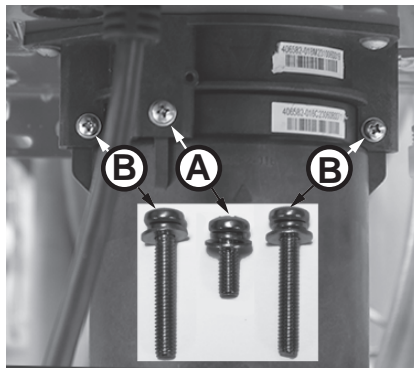

Figure 178 - Identify cartridge screws
- 5 Locate the three (3) screws securing the X3®/Bypass cartridge as shown in Figure 178. Remove the (A) M4-12mm screw and the two (B) M4-25mm screws from cartridge. Place screws aside in a safe place for reinstallation.